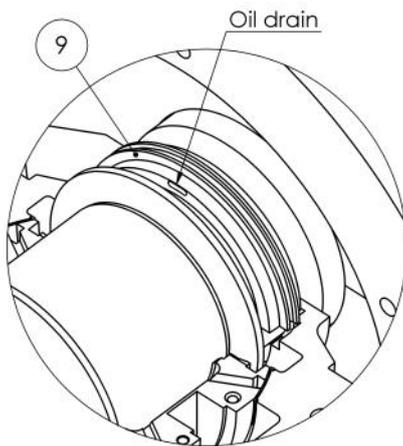
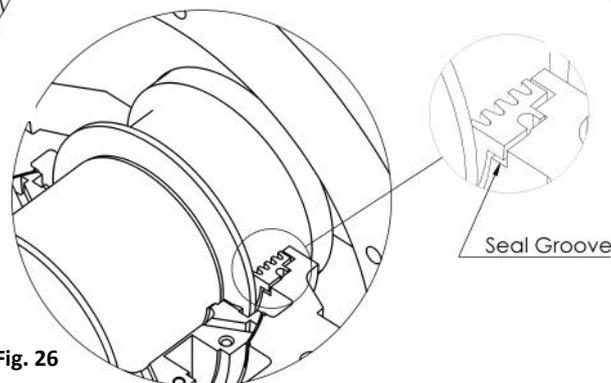

Fig. 25
Fig. 26
- Place the lower part of the seal (16) on the shaft (Fig.25) and turn the seal back and slightly to the correct position to dispense the sealant evenly (Fig.26) the anti-rotating lug must sit in the groove in the split line).